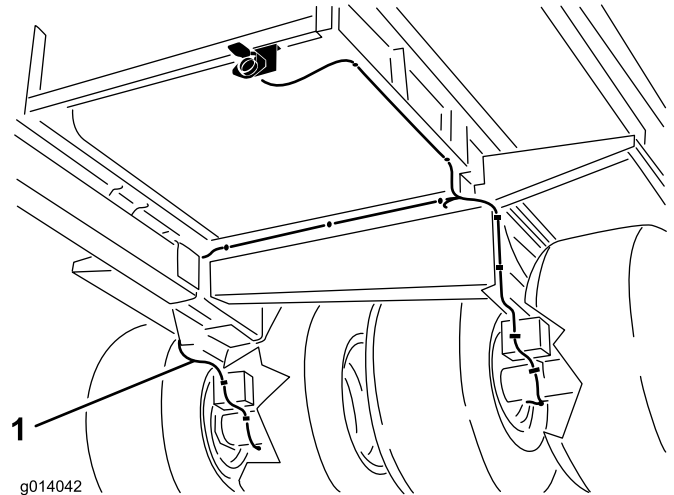

Figure 11
25. Secure the harness by plugging the harness clips into the frame mounting holes (Figure 11).
Note: If the mounting holes for the harness clips are not on the machine, drill (9) .266 in diameter holes at the harness clip locations shown in Figure 11.